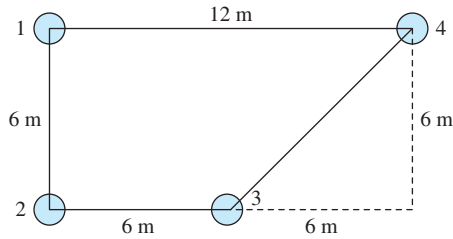

FIGURE P9.42 Asymmetrical bundled conductors' configuration.
9.42 (A)* Calculate the equivalent radius of the bundled conductors shown in Figure P9.42. Each subconductor's radius is 20 cm.